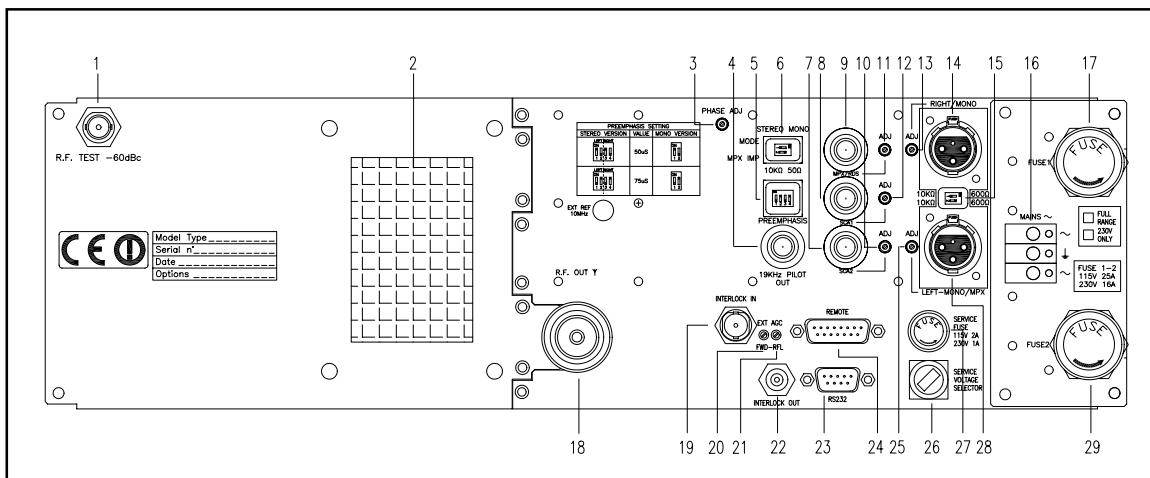

Figure 6.2
- Preemphasis (switch [5] Figure 6.2):
- L and R input impedance (type XLR) (switch [15] Figure 6.2):
- Operation mode/input impedance MPX ([6] Figure 6.2) (switch [6] Figure 6.2):
The Power Good function is a distributed power check and alarm function. When output power is under Power Good threshold value, machine changes DB15 "Remote" connector's pin state on rear panel (see figure 6.2 note [24]).